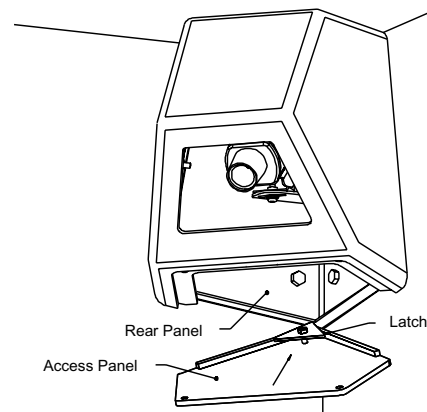

Figure 13: Inserting the Access Panel
4. **All Models Except HS9303L:** Attach the access panel to the housing by inserting the latch into the rear panel. Screw the two tamperproof screws down tight to the cover. If the rear of the access panel is not tight remove access panel and lower the latch by rotating it clockwise. Repeat until tight. **See Figures 13 and 14.**